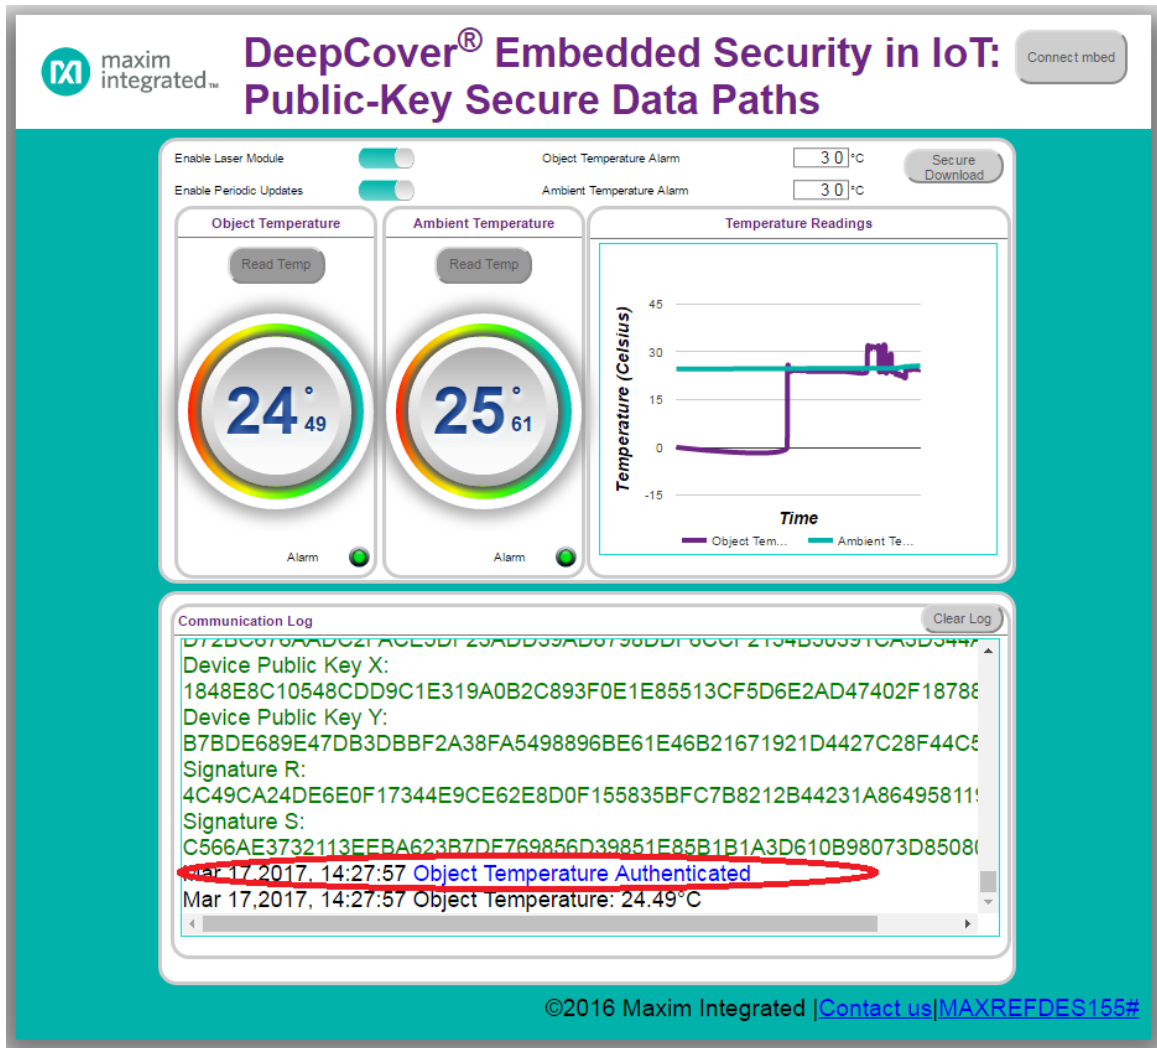

Figure 17. An Authenticated temperature reading with history graphed.
- Slide the **Enable Periodic Updates** and this continually requests and receives an authenticated temperature reading while graphing a log of the results in the **Temperature Readings** panel. The increments of the temperature readings occur every five seconds. Each reading can be verified to be authentic as listed in the **Communication Log** panel as shown in **Figure 17**.